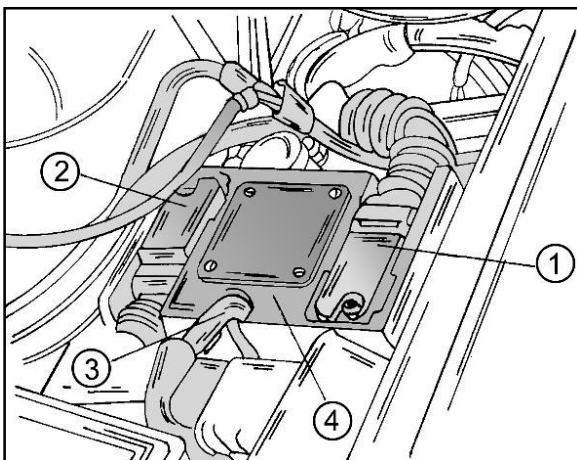

Fig. 1.7 – The location of the engine control unit.
- Refer to Fig. 1.7 and disconnect the vacuum hose (3) from the electronic control unit (4).